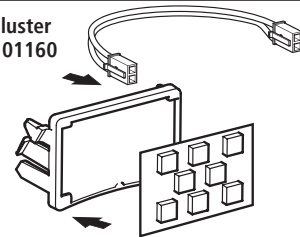

Fig. 67
- Disconnect power cord from operator (Fig. 67).